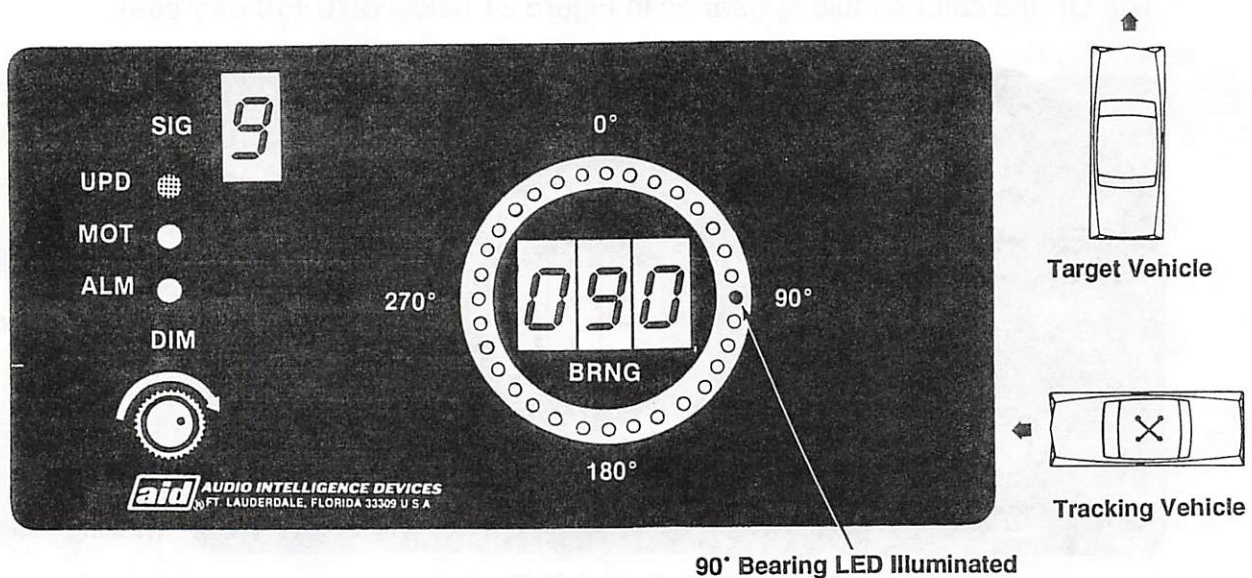

Figure 19. 90° Bearing Conditions
8. Move the tracking vehicle so that the target vehicle is to the right of the tracking vehicle. Maintain 100 feet (30 meters) of distance between the two vehicles. The DF Indicator should appear as Figure 19 below (090 ± 10 degrees).